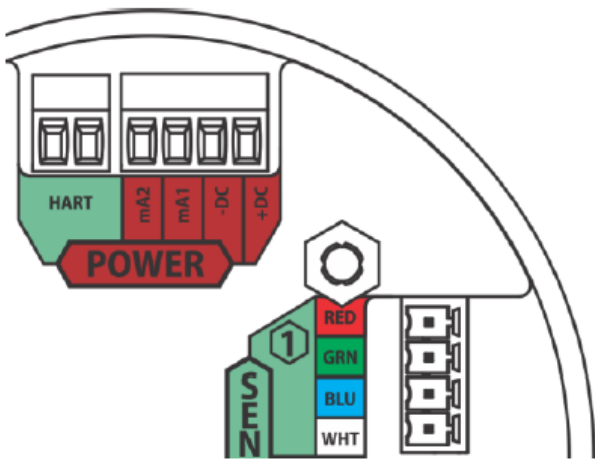

Figure 30 Power, HART, and Sensor Inputs
Using shielded cable is recommended. The cable shield should be terminated internal to the instrument enclosure using the crimp terminal provided (see Figure 30 ).
8. Connect shield of cable to base of instrument housing (see Figure 30 ).